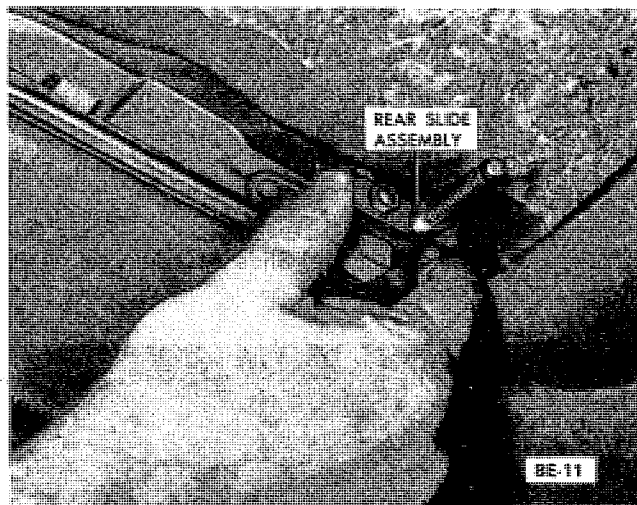

Figure 8E-11 Removing Rear Slide Cable Assemble From Retainer
3. Install outboard screws and tighten both on each side. See Figure 8E-3.